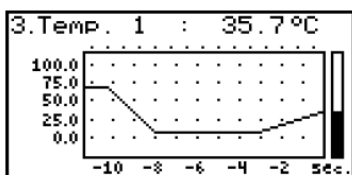

Fig. 6.3. “graph” mode
- “**Graph**” mode (Fig. 6.3) enables the momentary values or averaged values of measurements conducted for one of measurement channels to be viewed in the form of a graph.